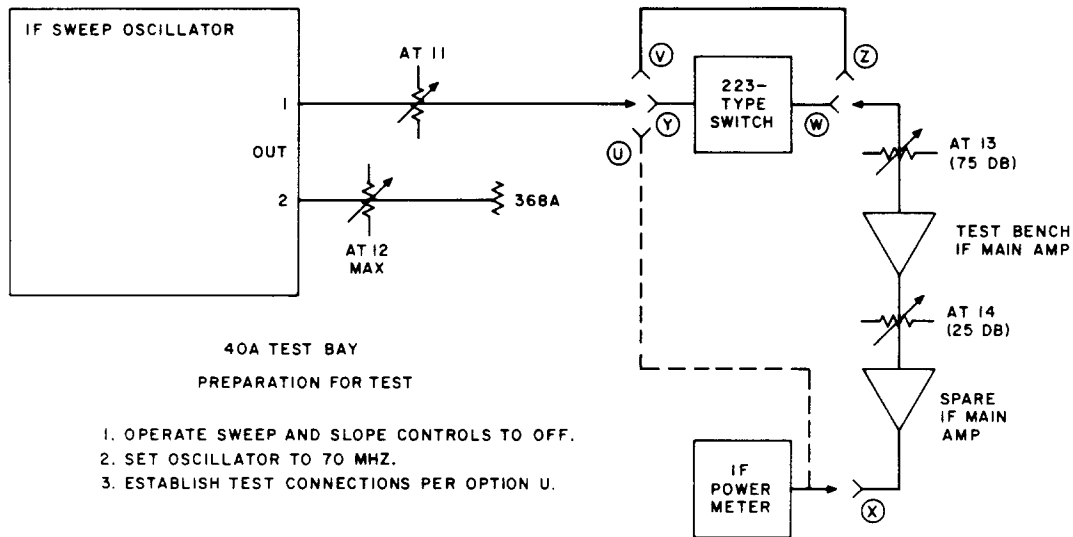
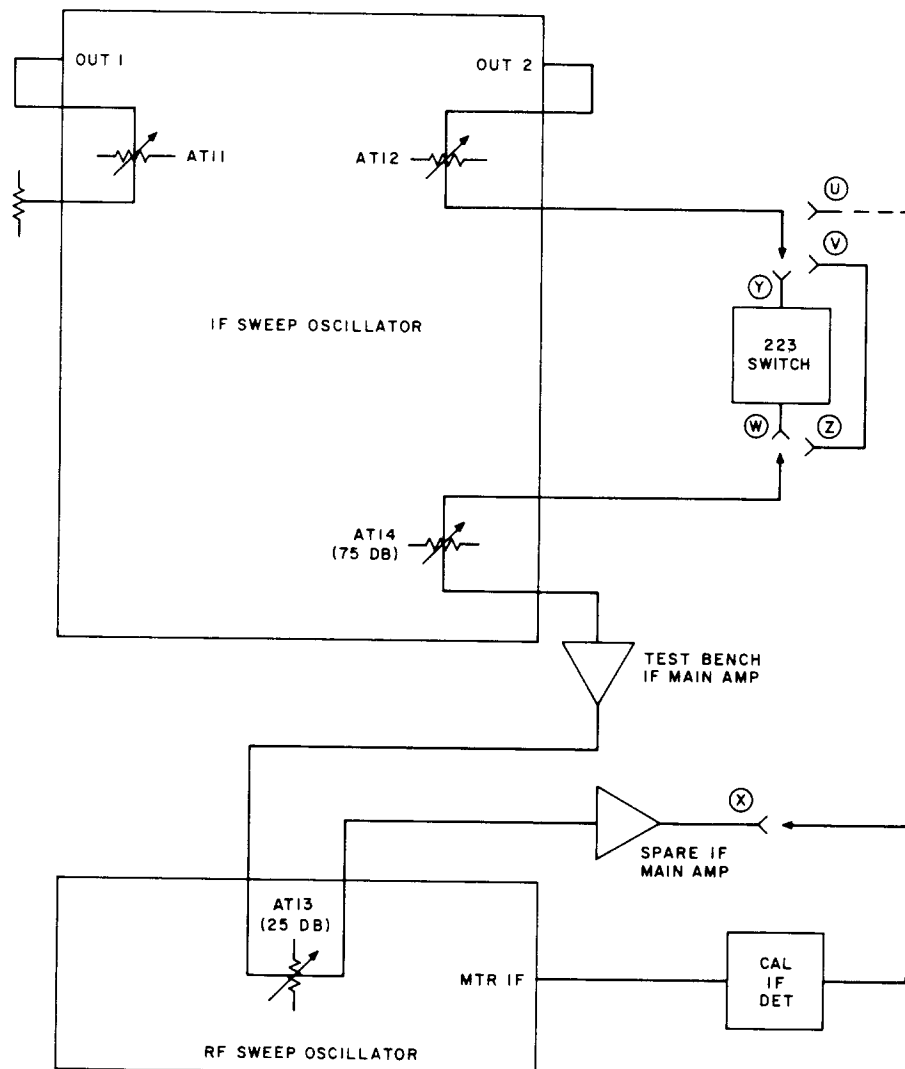

Fig. 14—Arrangement for Crosstalk Test Using 40A Test Bay
Fig. 15—Arrangement for Crosstalk Test Using 45A Test Bay
- (a) Establish the circuit of Fig. 14 or 15, option U.
| | 40A TEST BAY (Fig. 14) | 45A TEST BAY (Fig. 15) |